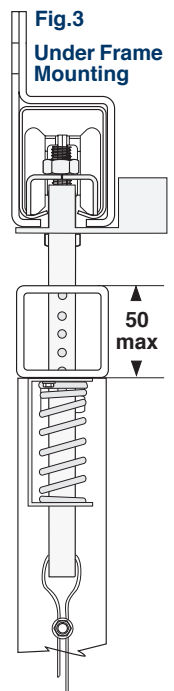

Fig.3
- Maximum door frame depth for under frame mounting of Door Lock Kit should not exceed 50mm (Fig.3)